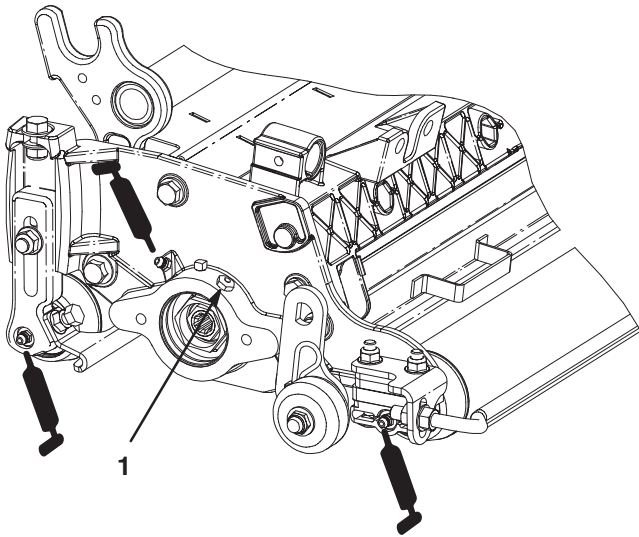

Figure 8
Each cutting unit has (7) grease fittings (Fig. 8) that must be lubricated regularly with No. 2 General Purpose Lithium Base Grease.